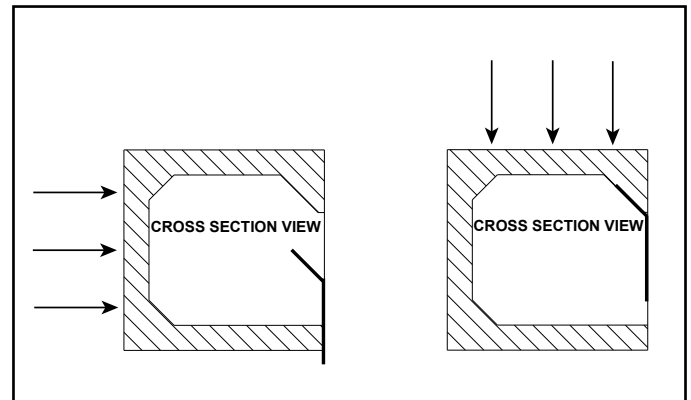

Figure 4 Cross Sectional View
5. With two people, one lifting from each end, lift the mantel up so that the top edge of the mantel is centered on the hanging bracket and hold mantel flush to the wall surface. See Figure 4. Carefully lower the mantel on to the hanging bracket and ensure the mantel is seated properly before placing the full weight of the mantel on the hanging bracket.